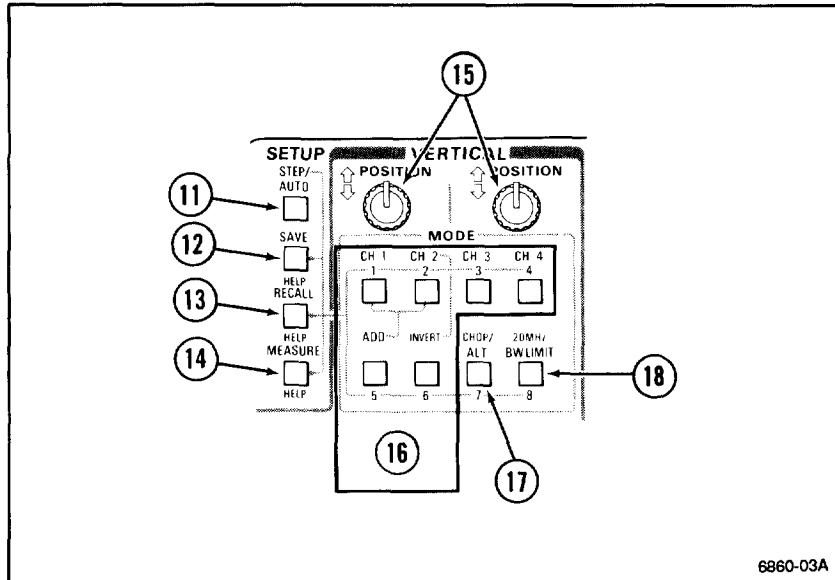

Figure 5-2. SETUP and MODE buttons, and CH 1 and CH 2 POSITION controls.
Refer to Figure 5-2 for the location of items 11 through 18.
- ⑪ **STEP/AUTO Button** Recalls the next step in a stored sequence of setups, if the STEP indicator is illuminated. If the STEP indicator is not illuminated, the oscilloscope automatically establishes triggering and scales the waveform display vertically and horizontally (AUTO).
- ⑫ **SAVE/HELP Button** Saves the current oscilloscope control settings in a numbered setup when followed by one of the setup-number buttons, 1 through 8, which are also the Vertical MODE buttons. Pushing the SAVE/HELP button replaces the top and bottom rows of the normal readout display with prompting and help messages. These help messages may be cycled through by repeatedly pushing the SAVE/HELP button. Additional setups are accessible by using Δ and STEP. For operational information, see the "Operation" section and Appendix B.
- ⑬ **RECALL/HELP Button** Restores previous oscilloscope control settings saved in a numbered setup when followed by one of the setup-number buttons. Pushing the RECALL/HELP button replaces the top and bottom rows of the normal readout with the user defined menu. Repeated operation of the HELP button produces a cycle of help messages. Additional setups are accessible by using Δ and STEP. For operational information, see the "Operation" section and Appendix B.